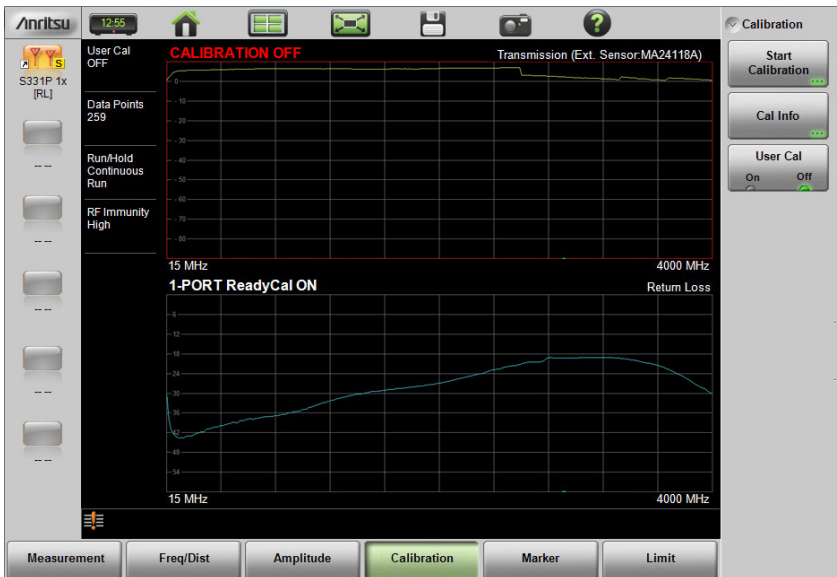

Figure 5-1. User Cal Off, ReadyCal On (All Measurements Except Transmission)
2. Press the **Calibration** main menu key. Figure 5-1 on page 5-1 illustrates the interface screen with Calibration menu and Dual Display format.